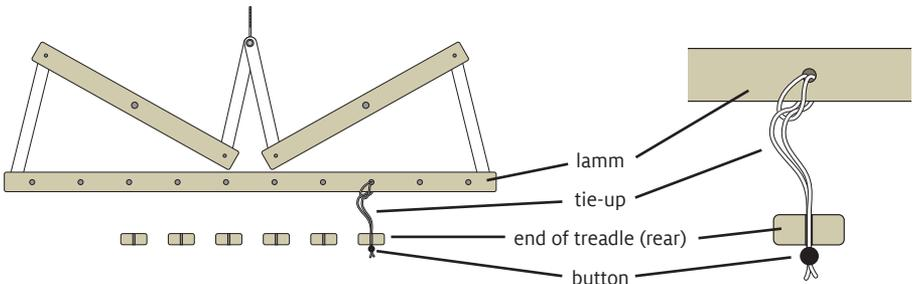

FIGURE 5: INSTALLING TIE-UP CORDS
17. Loop one end of each tie-up cord through a hole in the lamm (Figure 5) For 8-shaft and 4 Now-4 Later looms, there is one tie-up cord for every lamm hole. For 4-shaft looms, use only the 6 middle holes of each lamm.
18. Loop one end of each tie-up cord through a hole in the lamm. Tie shafts to a treadle by slipping a tie-up cord into the slot in a treadle (Figure 5, page 3). Work from the front lamm to the rear lamm for each treadle. After you have completed your tie-up, check each treadle by pushing it all the way to the floor and releasing it, making sure that the button of each tie-up cord is up against the treadle and that each cord hangs straight down to the treadle.